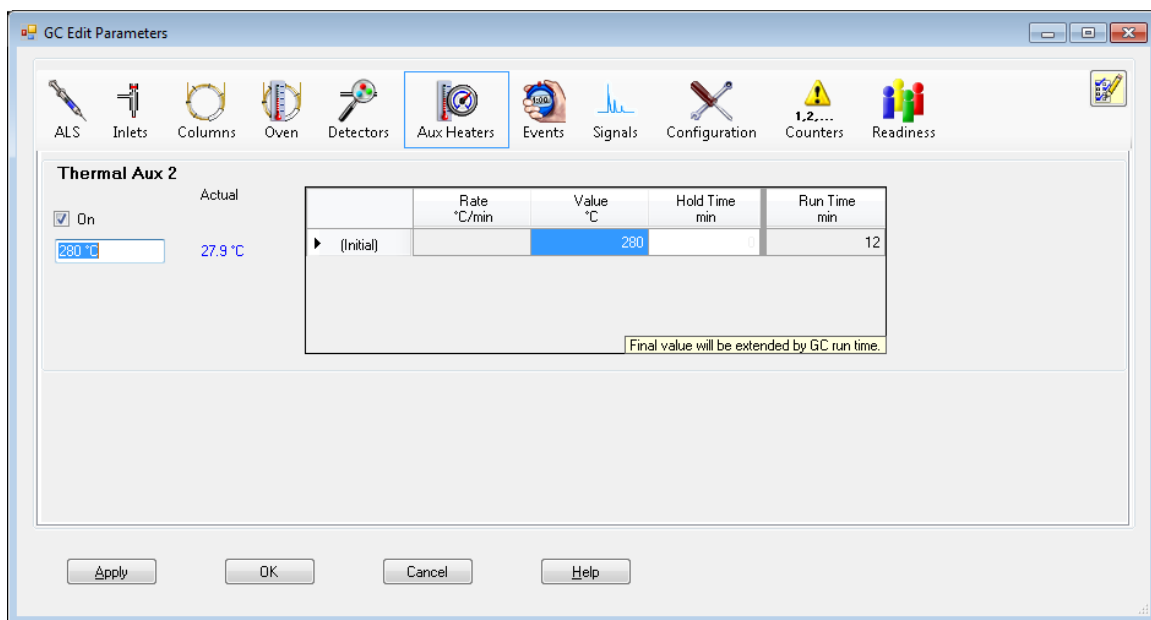

Figure 14 Setting the interface temperature
- 2 Click the **Aux Temperatures** icon to edit the interface temperature (Figure 14). This example has the GC/MS interface temperature configured as **Thermal Aux 2**.